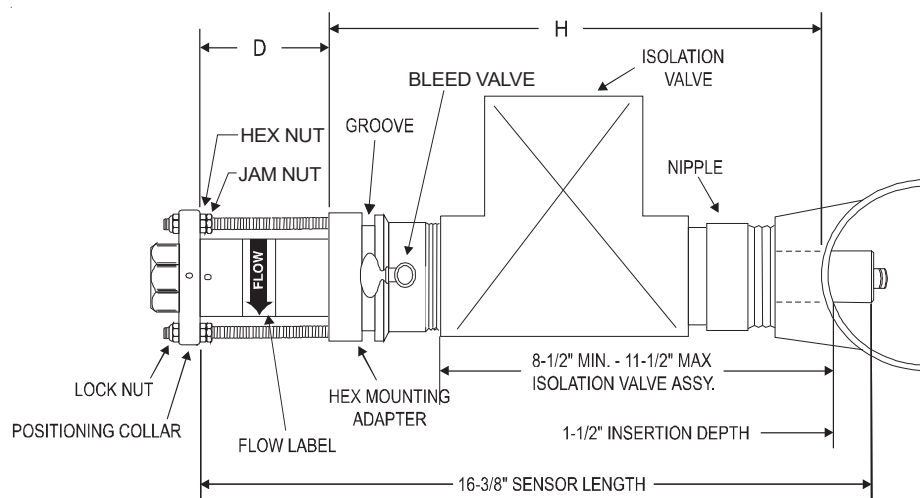
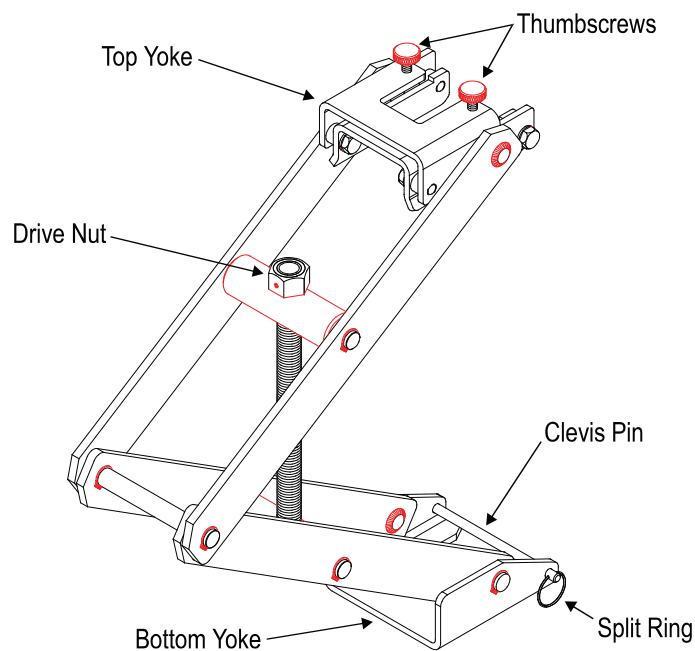

Figure 1: Hot tap flow sensor drawing
Figure 2: Model HTT Parts
Before you start, calculate the distance (D) between the top of the sensor hex mounting adapter and the bottom of the positioning collar (the top of the hex nut). To do so, **ADD** the H dimension, pipe wall thickness, and insertion depth, and **SUBTRACT** the total from the overall sensor length. See the example and formula below, and refer to *Figure 1*.
To install the hot tap flow sensor into a pressurized pipeline, follow these steps. Use *Figure 1 on page 1* and *Figure 2* for reference.
Use *Figure 1 on page 1* and *Figure 2 on page 2* for reference.